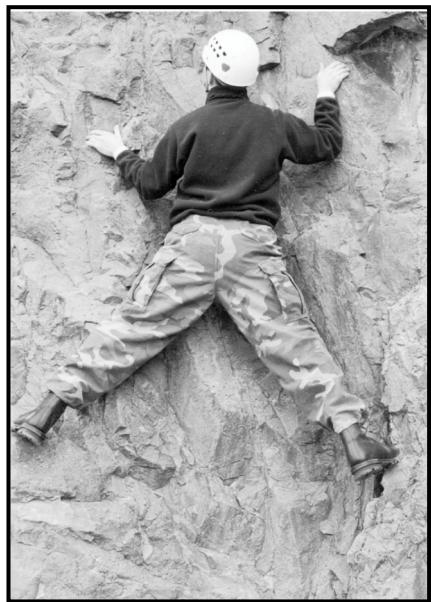

Figure 6-15. Stemming on a face.
(5) **Stemming.** When the feet work in opposition from a relatively wide stance, the maneuver is known as stemming. The stemming technique can sometimes be used on faces, as well as in a dihedral in the absence of solid handholds for the lieback (Figure 6-15).